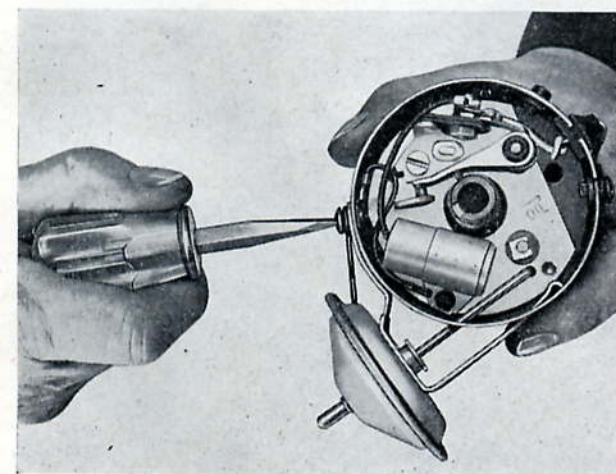

Fig. R.13. Removing the vacuum control unit attaching screw
1. Remove the rotor and the vacuum control (Fig. R.13).